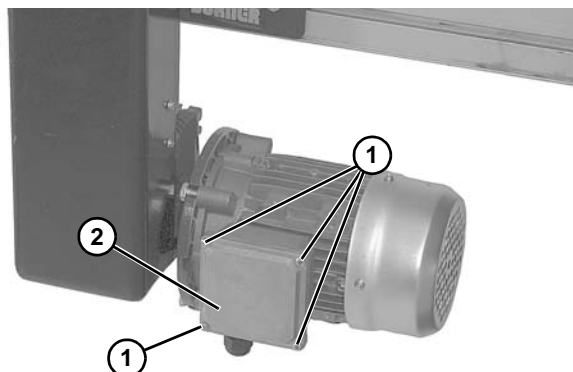

Figure 27
- a. Loosen terminal box screws (Figure 27, item 1) and remove cover (Figure 27, item 2).